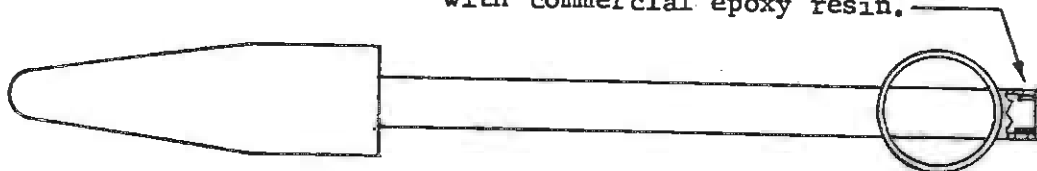

Figure 3. Aileron Balance Weight Arm Modification.
On aircraft prior to AA5-0165 the Aileron Balance Weight Support Arm should be modified as follows: chamfer the I.D. of the tube .030 x 45°. Inspect the tube I.D. for any evidence of corrosion. If corrosion is present remove it with a small wire brush and swab the tube I.D. with zinc chromate. After the zinc chromate is dry, remove a small amount from the tube I.D. to a depth of 1/4" from the end. Coat this area with commercial epoxy resin and plug the end of the tube with a plug-Part No. D4410. This will provide a sealed tube and prevent the further accumulation of any moisture. See Figure 3. Plugs P/N D4410 are available at a cost of \$.07(E) each.